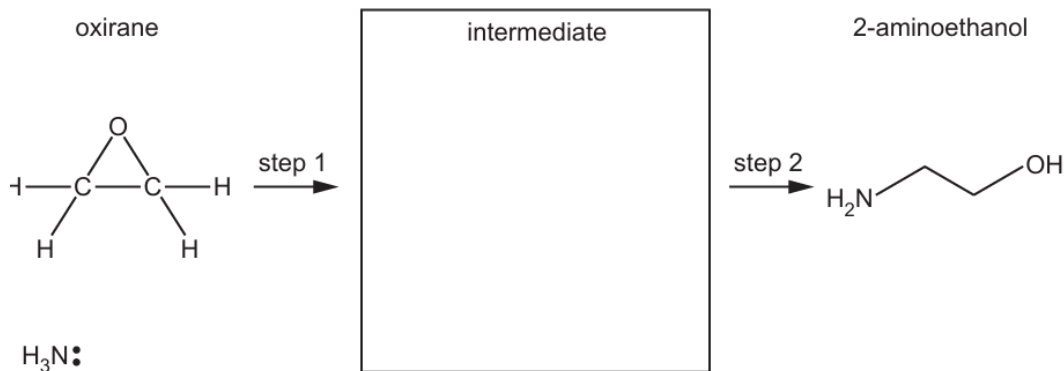

Fig. 2.3
- (i) Suggest the mechanism for step 1 of the reaction of oxirane with ammonia in Fig. 2.3.